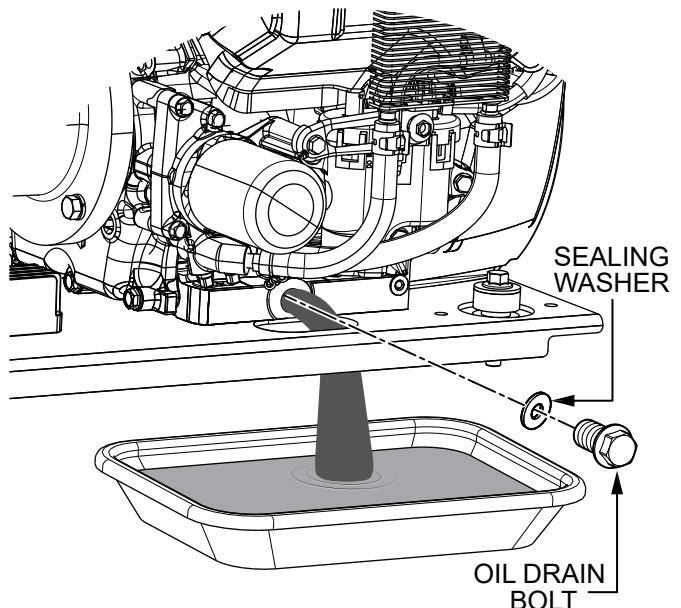

Figure 33. Draining The Engine Oil
2. Remove the **oil drain bolt** and **sealing washer** (Figure 33). Allow the oil to drain into a suitable container.